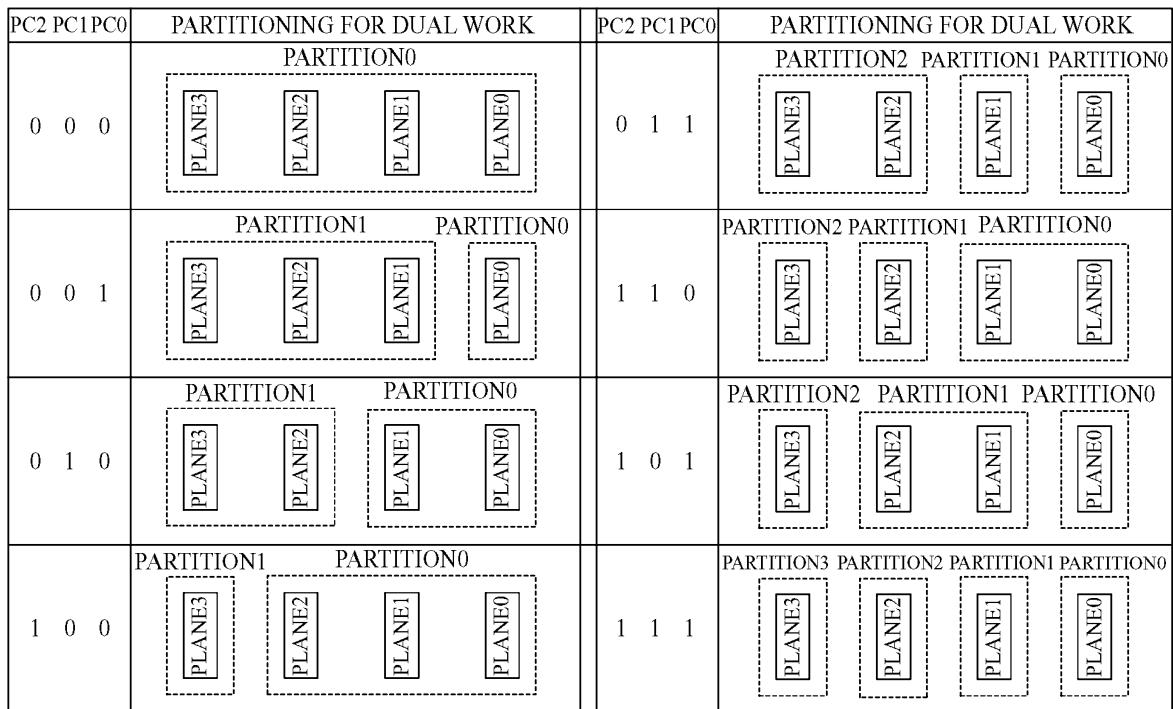

Figure 17. Partition Configuration
The partition configuration shown in Table 17 determines the partition boundaries for the dual work (simultaneous read while erase/program) operation. The partition boundaries can be set to any plane boundaries. If the partition configuration register bits PCR.10-8 (PC.2-0) are set to "001", the partition boundary is set between plane0 and plane1. There are two partitions in this configuration. Plane1-3 are merged to one partition. Status registers for plane1-3 are also merged to one. If the partition configuration register bits are set to "101", the partition boundaries are set between plane0 and plane1 and between plane2 and plane3. There are three partitions in this configuration. Plane1-2 are merged to one partition. If the partition configuration register bits are set to "111", there are four partitions. Each partition is just the same as each plane. Figure 17 illustrates the various partition configuration.
<p>PCR.15-11 = RESERVED FOR FUTURE ENHANCEMENTS (R)</p> <p>PCR.10-8 = PARTITION CONFIGURATION (PC2-0)</p> <ul style="list-style-type: none"> <li>• 000 = No partitioning. Dual Work is not allowed.</li> <li>• 001 = Plane1-3 are merged into one partition. (default in a bottom parameter device)</li> <li>• 010 = Plane 0-1 and Plane2-3 are merged into one partition respectively.</li> <li>• 100 = Plane 0-2 are merged into one partition. (default in a top parameter device)</li> <li>• 011 = Plane 2-3 are merged into one partition. There are three partitions in this configuration. Dual work operation is available between any two partitions.</li> <li>• 110 = Plane 0-1 are merged into one partition. There are three partitions in this configuration. Dual work operation is available between any two partitions.</li> <li>• 101 = Plane 1-2 are merged into one partition. There are three partitions in this configuration. Dual work operation is available between any two partitions.</li> </ul>	<ul style="list-style-type: none"> <li>• 111 = There are four partitions in this configuration. Each plane corresponds to each partition respectively. Dual work operation is available between any two partitions.</li> </ul> <p>PCR.7-0 = RESERVED FOR FUTURE ENHANCEMENTS (R)</p> <p style="text-align: center;">NOTES:</p> <ol style="list-style-type: none"> <li>1. After power-up or device reset, PCR10-8 (PC2-0) is set to "001" in a bottom parameter device and "100" in a top parameter device.</li> <li>2. See Figure 17 for the detail on partition configuration.</li> <li>3. PCR.15-11 and PCR.7-0 bits are reserved for future use. If these bits are read via the Read Identifier Codes/OTP command, the device may output "1" or "0" on these bits.</li> </ol>